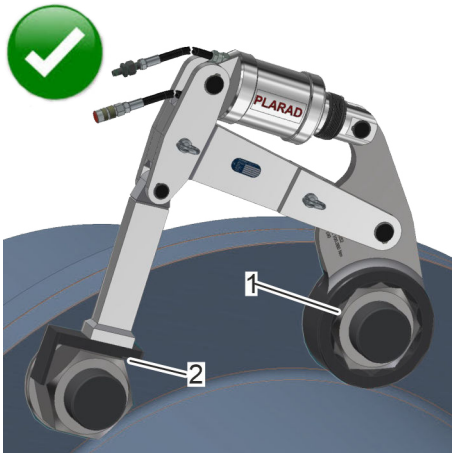

Fig. 10: Ideal bracing situation
3. Ensure that the reaction brace lies flush on the bracing surface (Fig. 10/2) and cannot slip out of place.